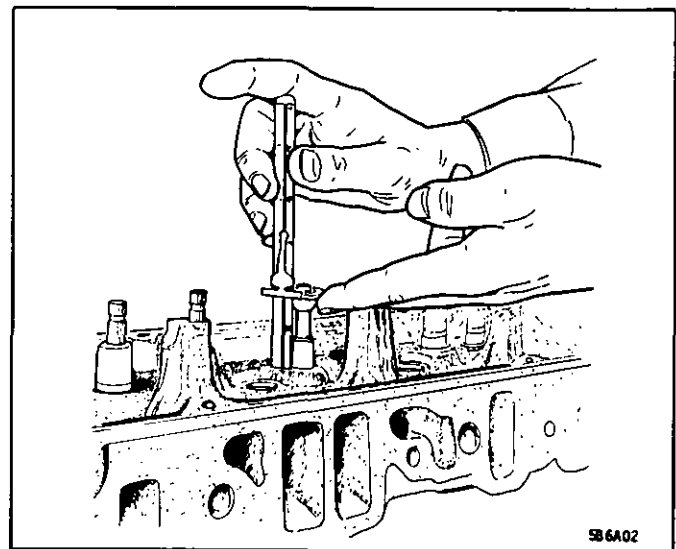

Figure 13 Measuring Valve Spring Installed Height
- Valve spring installed height (Figure 13). Excessive valve spring installed height is caused by the lowering of the valve seat by wear and grinding, and valve face grinding during reconditioning. To correct the valve spring installed height, add shims under the valve spring.